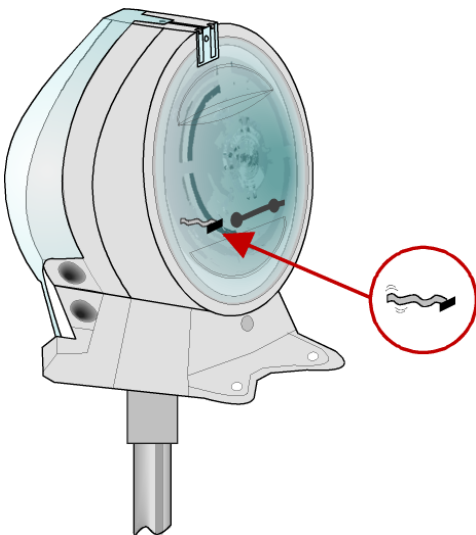

Fig. 25: Flow indicator (Film strip)
- Fix flow indicator (supplied Film strip) inside the cover (refer to Fig. 25).